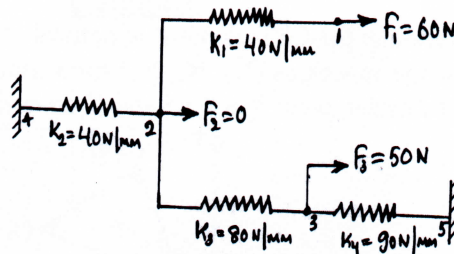

Fig Q1(c)
c. For the spring shown in Fig Q1 (c) determine the nodal displacements using the principle of minimum potential energy. (08 Marks)